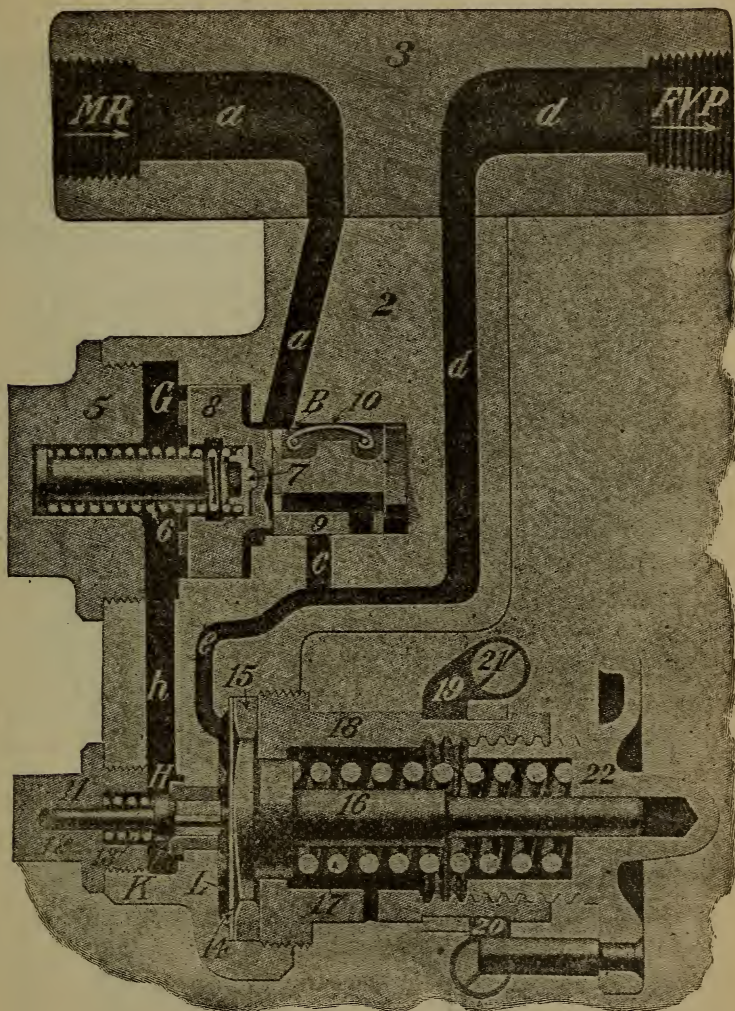
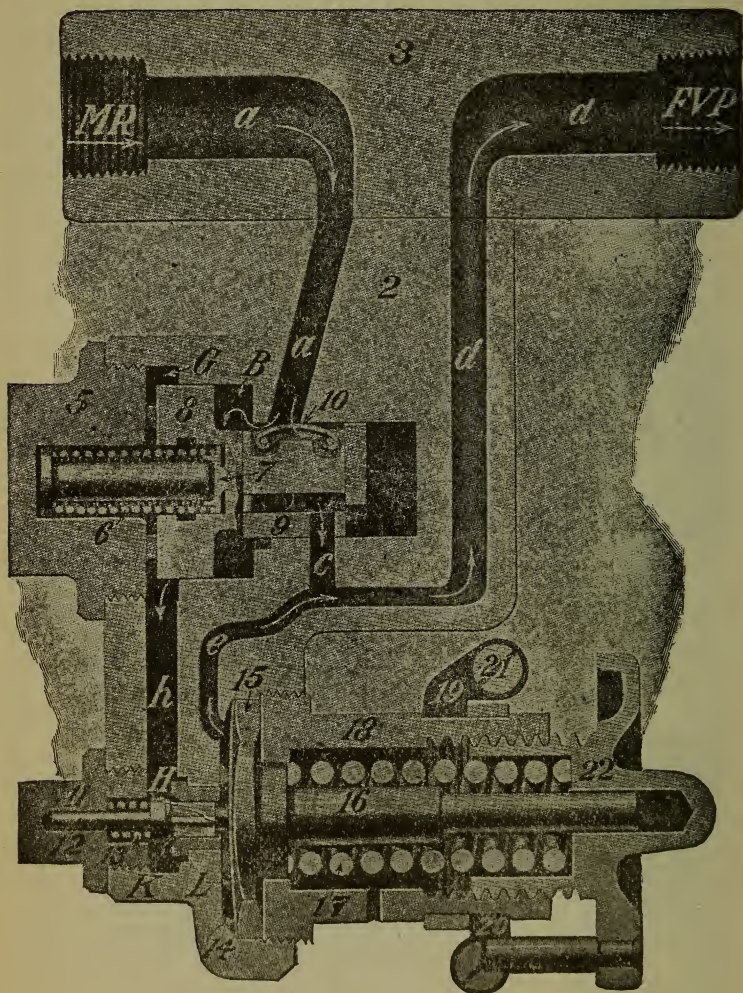

Fig. 5—Diagram of B-6 Feed Valve Closed.
Fig. 6—Diagram of B-6 Feed Valve Open.
(For connections see Fig. 5.)
A. The feed valve consists of two sets of parts designated as the supply parts and the regulating parts. The supply parts, which control the flow of air through the valve consist of the supply valve 9 (see Figure 5), and its spring 10, supply valve piston 8 and supply valve piston spring 6. The regulating parts consist of the regulating valve 12, regulating valve spring 13, diaphragm 14, diaphragm spindle 16 and regulating spring 17.
A. Closed, as shown in Figure 5.
A. By referring to Figure 5, which is a diagrammatic view of the valve in its closed position, air entering through port *a* from the main reservoir is free to pass into the supply valve chamber "B" causing the supply valve piston 8 to be moved to the left, compressing piston spring 6, as shown in Figure 6, by which movement the supply valve 5 uncovers port *c* in the valve seat, thereby permitting air to pass directly through ports *c* and *dd* to the feed valve pipe at the same time air is passing by the supply valve piston 8, which is not an airtight fit, to chamber *G*, thence through port *hH* by the regulating valve 12, and through port *K* to diaphragm chamber *L* and on through ports *edd* to the feed valve pipe.
to react and move the piston and supply valve to the position shown in Figure 5, closing port *c* in the supply valve seat.
A. The only difference between it and the B-6 feed valve just described is in the convenience of adjustment, the C-6 reducing valve having the ordinary adjusting nut and cap nut used on former types of feed valves instead of the hand adjusting wheel 22 used with the B-6 feed valve shown in Figure 6. It is called a "Reducing Valve" simply to distinguish it from the B-6 feed valve.